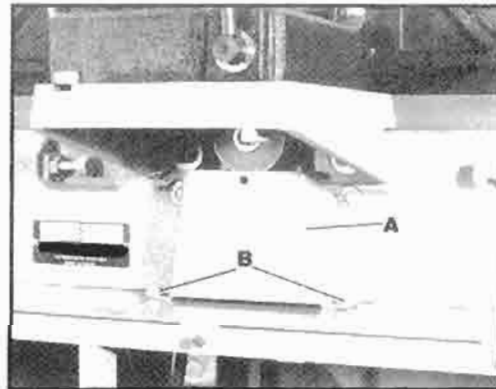

Fig. 12
To assemble the cutterhead belt and pulley guard (A) Fig. 12, position the guard on the jointer stand and hold in place using the two 5 / 8" long screws (B), washers and hex nuts supplied.